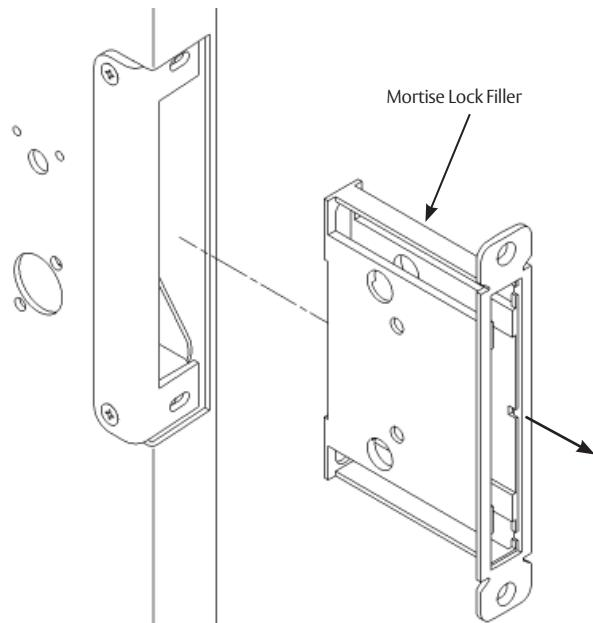

Figure 23
- Remove the mortise lock filler and discard. (Figure 23)